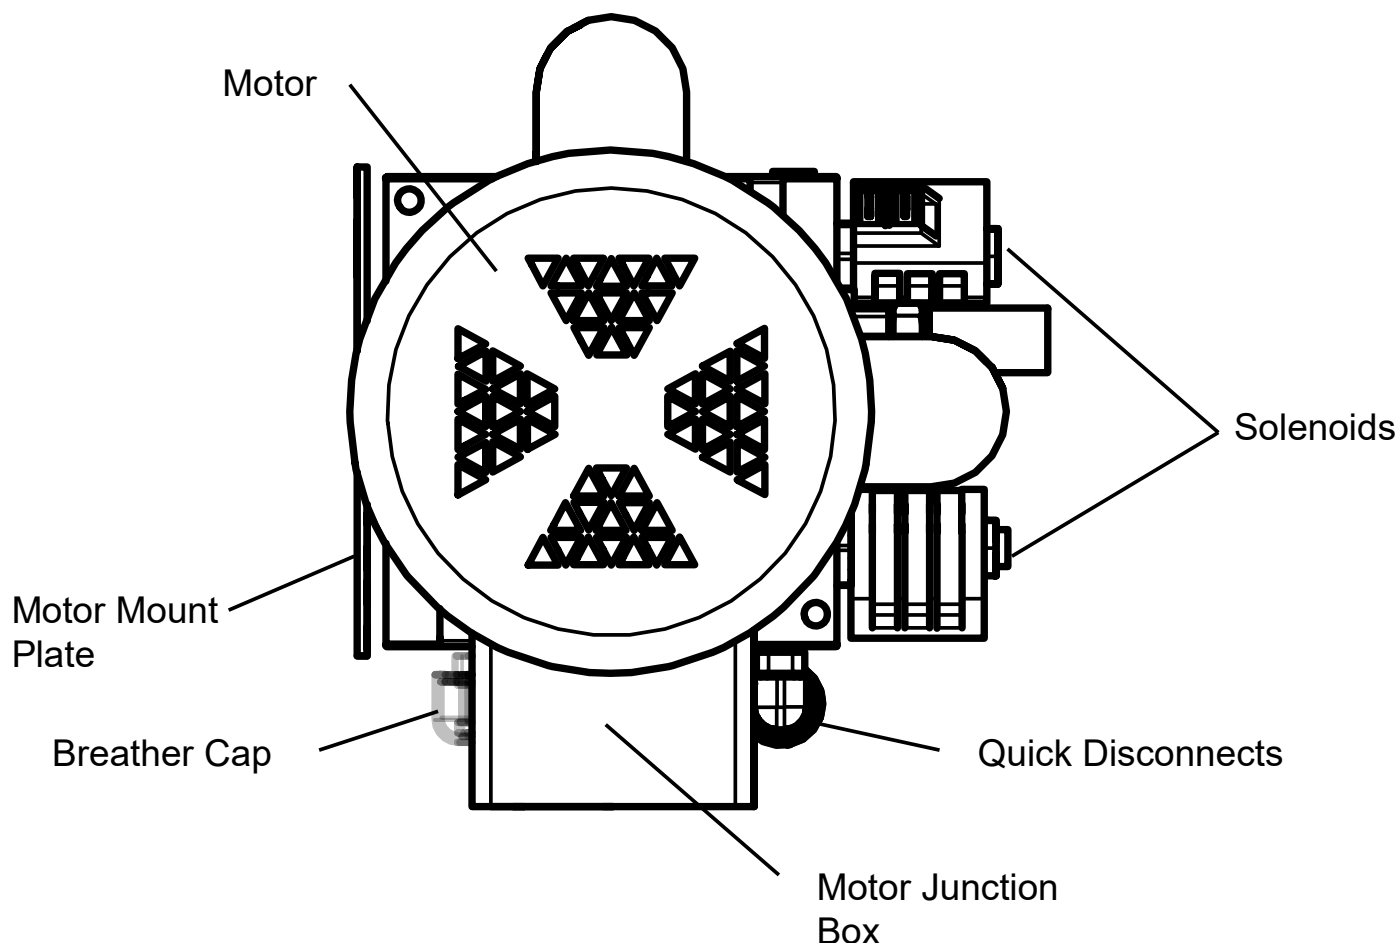

Figure 6. Motor and Pump Pack Alignment
9. Align the motor and pump pack to each other and to the chassis as shown (Figure 6). QDs will be perpendicular to the motor mount plate and under the motor junction box.